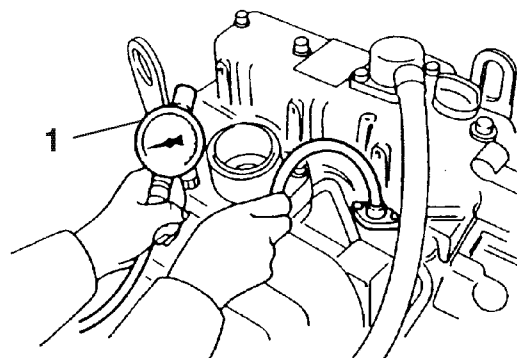

Figure 13-1
3. Turn off the fuel supply valve in the fuel supply line. Disconnect the fuel injection stop solenoid at the connector. Crank the engine for a few seconds with the stop solenoid disconnected (no injection state) before installing the compression gauge adapter (**Figure 13-1, (1)**), this will expel any residual fuel from the cylinder.